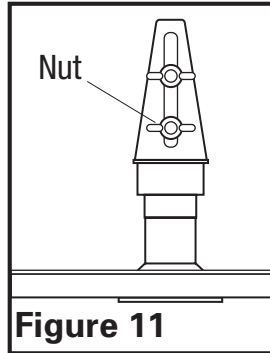

Figure 11
- Locate the lamp holder bracket mounted on the back wall of the hood (**Figure 11**).